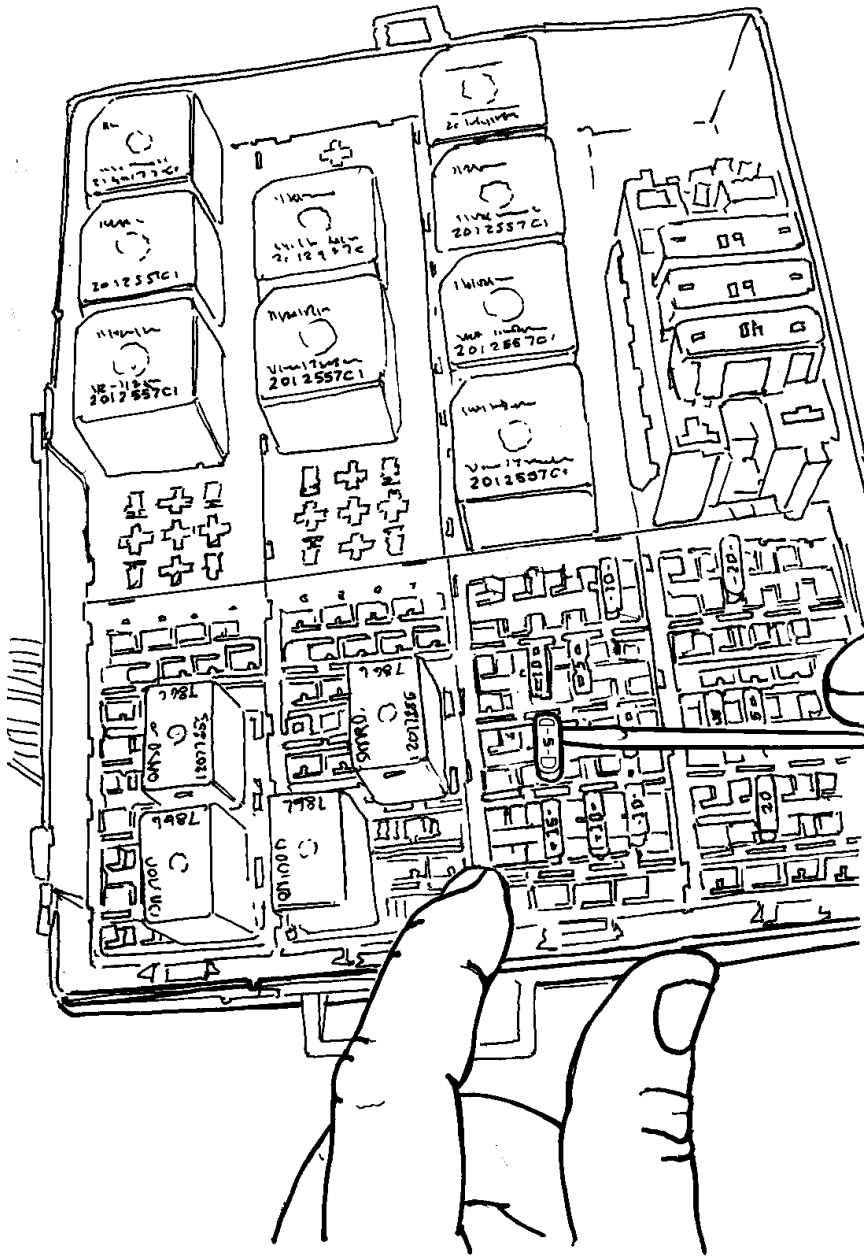

Figure 9 Remove E.C.M. Fuse
11. Remove the 5-amp E.C.M. fuse from the power distribution center (PDC)(Figure 9).